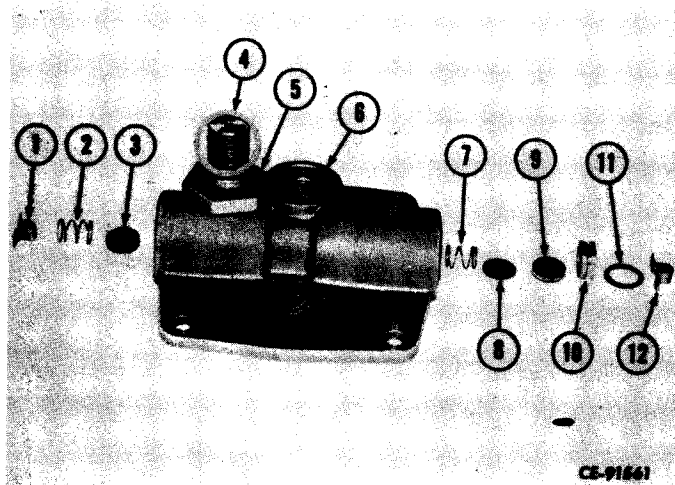

Figure 13-50
Using snap ring pliers, remove retainer (1, Fig. 13-50) and slide spring (2) and valve (3) from cover (6). Use snap ring pliers to remove retainer (12). Slide valve seat (10), valve (9), disc (8) and spring (7) from cover. Unscrew plug (5). Remove seal (4) from plug. Remove "O" ring (11) from seat.
Install new "O" ring (11, Fig. 13-50) on valve seat (10). Slide spring (7), disc (8), valve (9) and seat into inlet of cover (6). Secure with retainer (12). Slide valve (3) and spring (2) into outlet of cover. Secure with retainer (1). Install seal (4) on plug (5) and plug in cover.